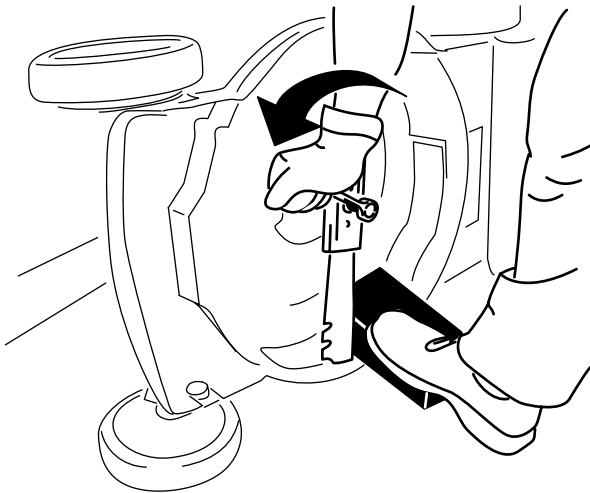

Figure 19
3. Use a block of wood to hold the blade steady (Figure 19).
4. Remove the blade, saving all mounting hardware (Figure 19).